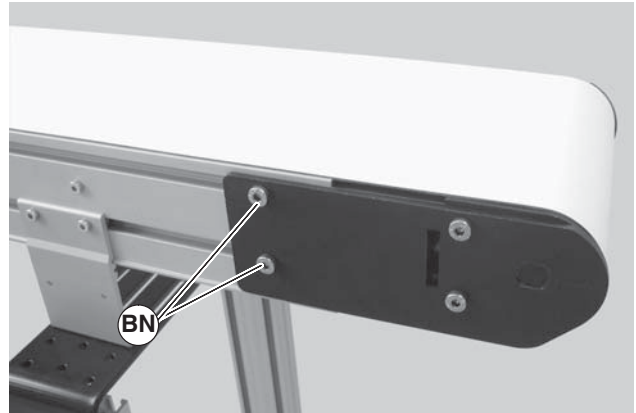

Figure 37
1. On the side of conveyor which the belt is tracking towards, loosen the head plate fastening screws (Figure 37, item BN).
3. Re-tighten the head plate fastening screws (Figure 37, item BN) with a 5 mm hex-key wrench to 146 in-lb (16.5 Nm).